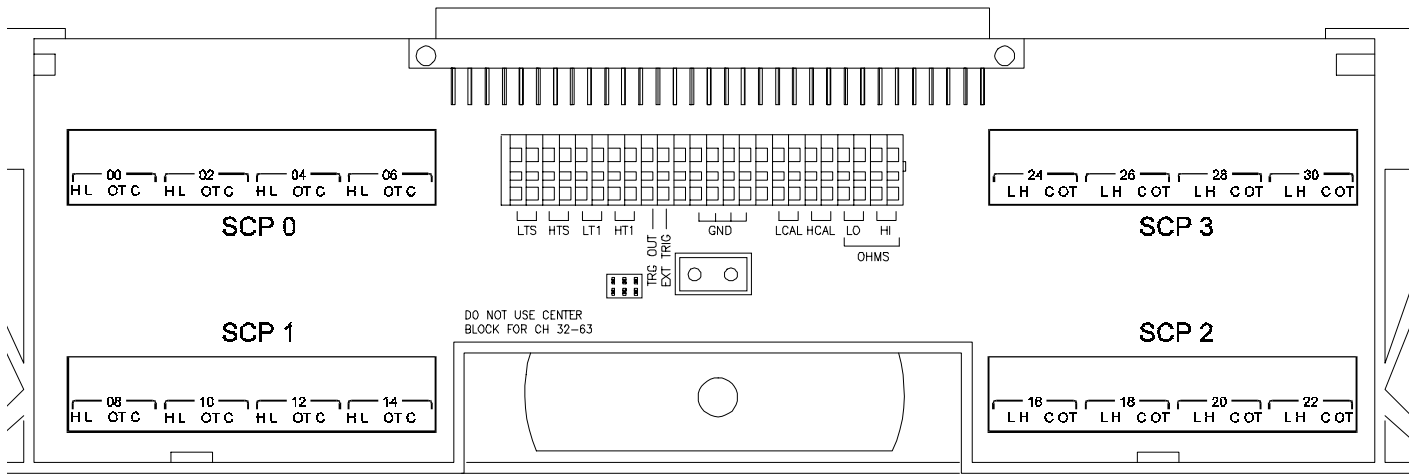

Figure 2 HP E1516/17 B-size Terminal Module (Ch 00-31)
- For HP E1313 Terminal Modules, use the E1516-84303 labels. The connections are shown in Figures 2 and 3.